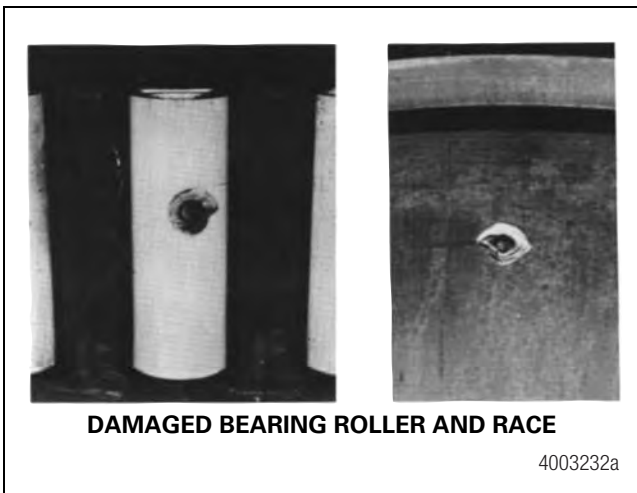

Figure 7.2
- A connection that places a wheel bearing between the ground cable connection and the weld area can damage the bearing by electric arcing as shown below. Figure 7.2.